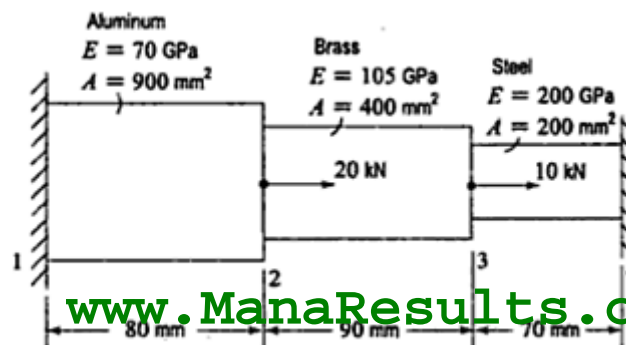

Figure 1
3. For the three stepped bar shown in figure 1, determine the displacements at node 2 and 3 and the reactions at the supports. Also find the stresses in each section. [10]